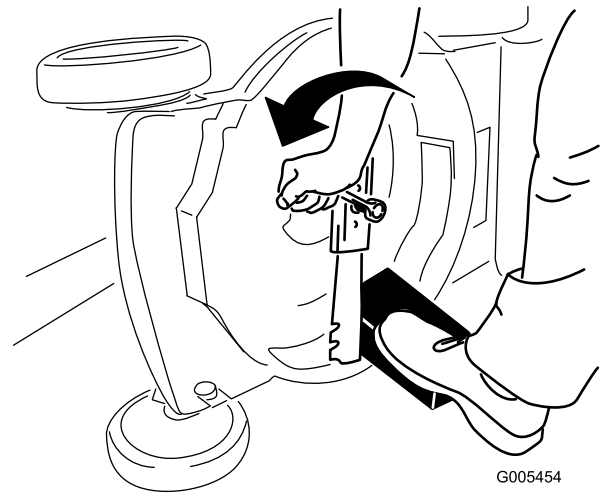

Figure 26
4. Remove the blade, saving all mounting hardware (Figure 26).
3. Use a block of wood to hold the blade steady (Figure 26).